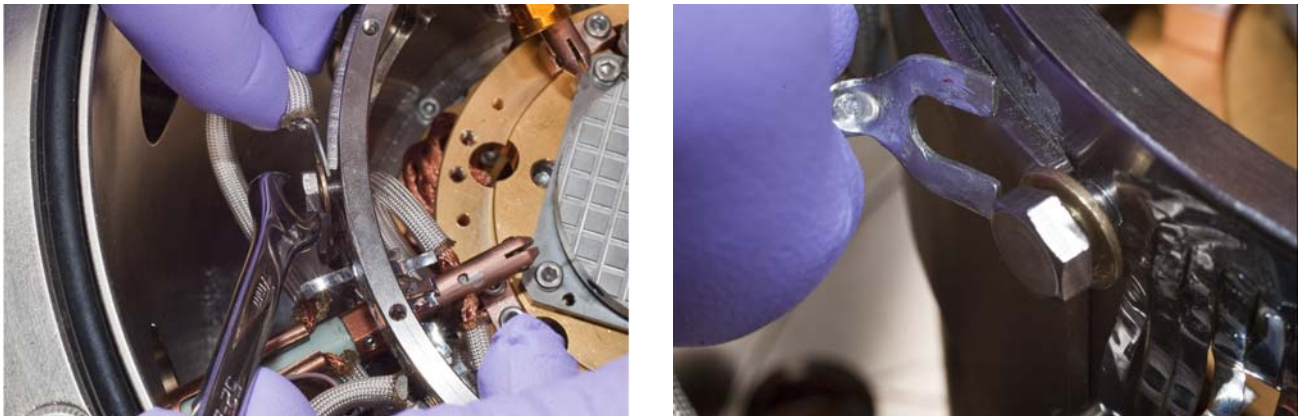

FIGURE 5-9 *Left and Right: Use a wrench to remove the arm shield braids from the radiation shield*
- Use a 7 mm wrench to loosen the hex screws that hold the spade lugs at the ends of the arm shield braids to the radiation shield (FIGURE 5-9), but do not fully remove these screws. Slide the spade lugs from under the screw heads and let the arm shield braids fall.